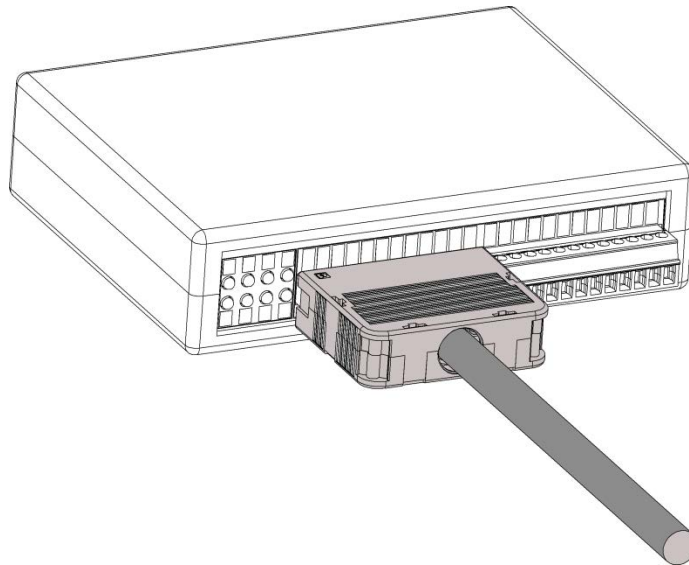
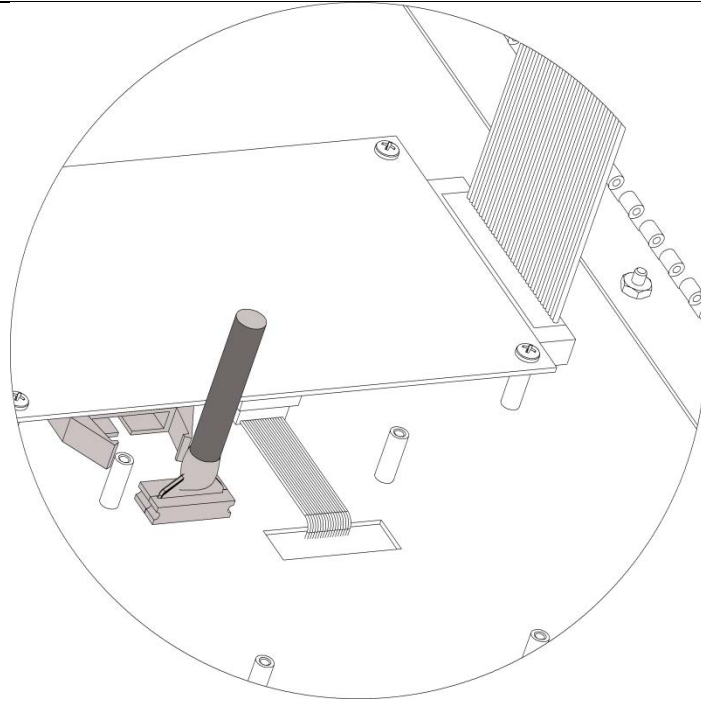

Figure 2 An illustration showing how to connect communication cable to the DNP3 interface module.
Figure 3 An illustration showing how to connect the DNP3 communication cable to the ARE-M control board.
The DNP3 communications module communicates with a DNP3 master through a 10Mbit Local Area Network (LAN) connection. The DNP3 communications module communicates with and is powered from the ARE-M display board through the supplied communication cable. The communication cable length comes in a standard length of 5 feet. The Ethernet cable lengths with option numbers are listed in Table 1. Should you need a different length communication or Ethernet cable, these are available from UNIPOWER. The connection between the DNP3 communications cable and the DNP3 communication module is shown in Figure 2. The connection between the communications cable and the ARE-M display board is shown in Figure 3. The communication cable connectors are keyed and not interchangeable to aid in correct installation.
- Plug the communications cable into the DNP3 communication module as illustrated in Figure 2.
- Connect the communications cable to the ARE-M control board as illustrated in Figure 3.